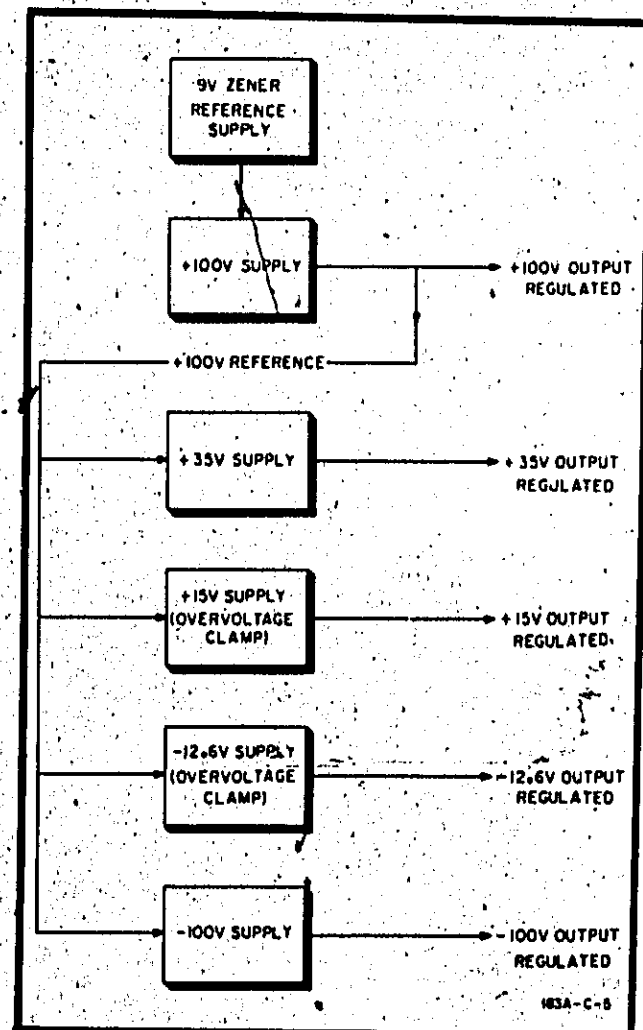

Figure 4-2. Block Diagram-LVPS
4.10. The LVPS provides regulated outputs of +100, -100, +35, +15 and -12.6 volts dc. A separate zener-regulated output of 12.6 volts dc operates the cooling blower. The LVPS provides ac voltages of 6.3 volts for the CRT filament and 3 volts for pilot lamps and plug-in sync voltage. The block diagram (Figure 4-2) shows the interconnections between the five dc supplies. Each supply is referenced to the +100-volt supply for a constant voltage comparison. The +100-volt supply is referenced